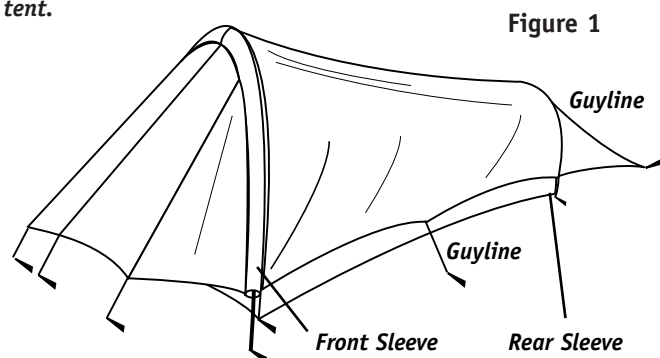
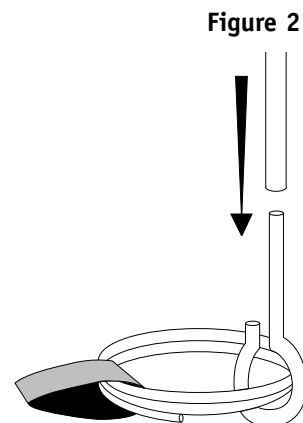

Figure 1
Figure 2
2. Identify the front and rear shock tent poles. The front has seven (7) sections and the rear has five (5). Snap the pole sections together.
3. Slide the front tent pole through the orange sleeve over the door of the tent (see figure 1). Insert the pins at the bottom of the sleeve into the ends of the front pole (see figure 2).
4. Slide the rear pole through the orange sleeve on the rear of the tent (see figure 1). Insert the pins at the bottom of the sleeve into the ends of the rear pole (see figure 2).